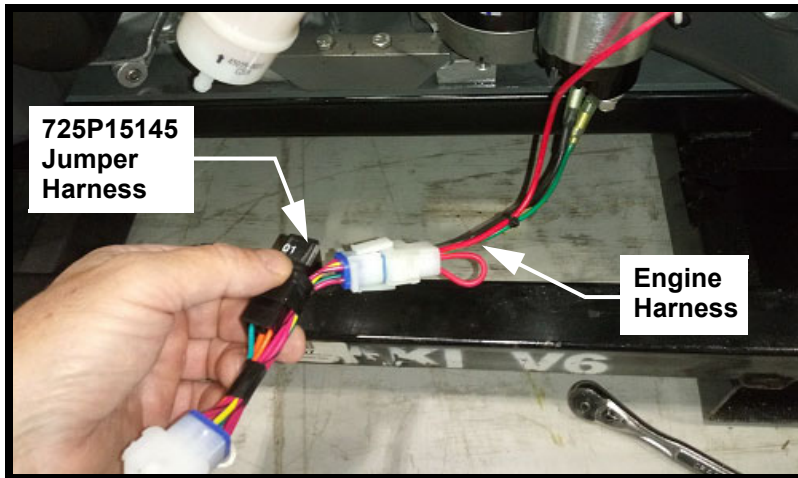

FIGURE 5
10. Connect the **725P15145** Jumper Harness (Engine Connection) to the engine harness as shown in Figure 5.